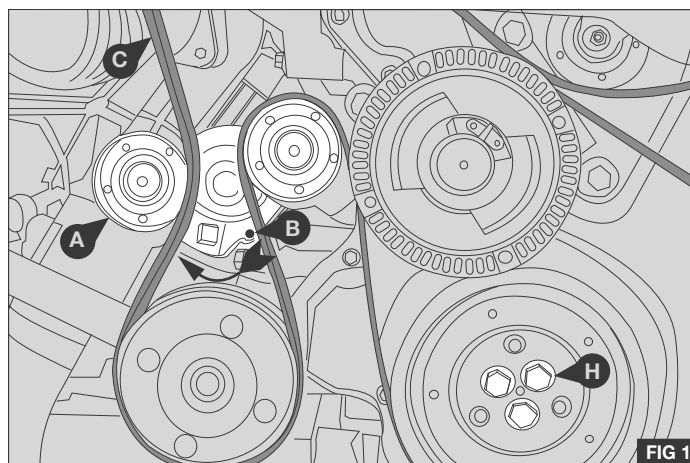

FIG 1
3. Using a suitable tool rotate the automatic belt tensioner (A) to release the tension and lock with a pin at point (B) remove the original manufacturer's drive belt (C) taking care to check the direction of rotation and noting the original routing, if different from the diagram shown in Fig.13 report your findings to your Kit/System supplier before proceeding - Fig 1
8. Remove the three bolts (H) retaining the engine crankshaft damper and carefully remove the damper - Fig 1